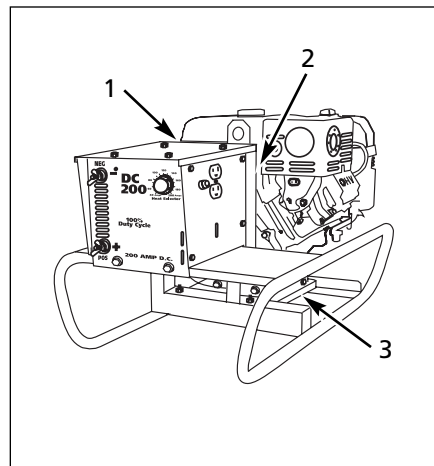

Figure 4 - 200
1. Remove the belt cover (See Figure 4, Reference 1).
2. Remove safety screen (4 bolts) (See Figure 4, Reference 2).
3. Loosen the alternator lock bolt near the fan (See Figure 4, Reference 1).
4. Adjust the belt by turning the belt adjustment screw. (Figure 4, Reference 1).
4. Loosen the welder engine mounting bolts (4) (See Figure 4, Reference 3) and move the engine forward or back to achieve perfect alignment. Tighten to mounting bolts with belts aligned.